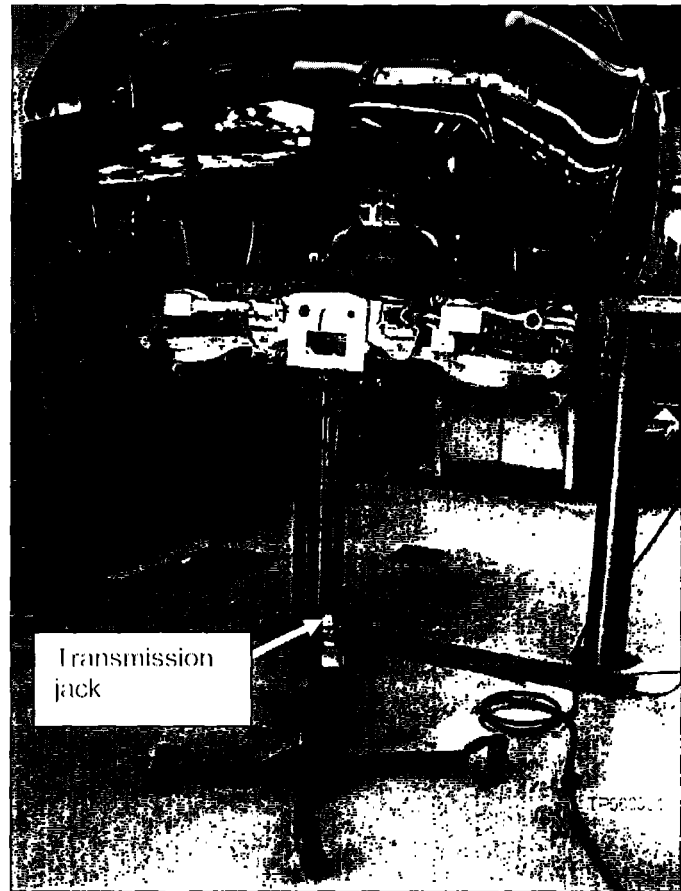

Figure 30
30. Carefully lower the suspension member (see Figure 30) and place it in a safe location away from "traffic".